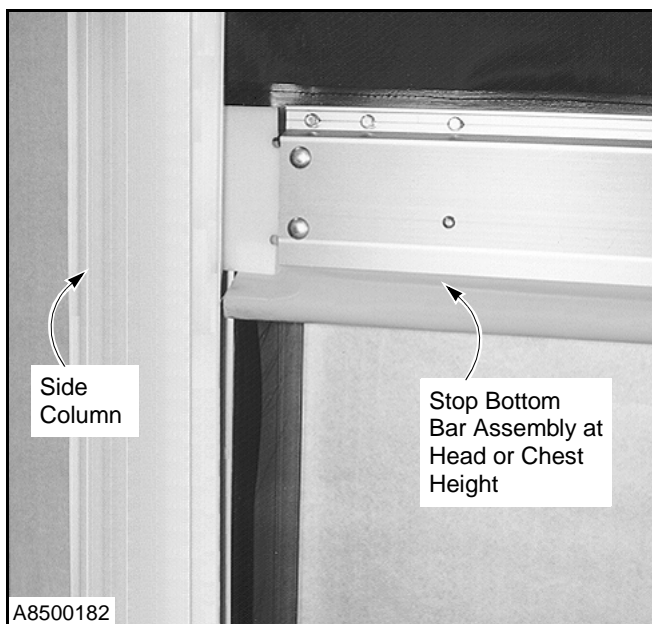

Figure 75
1. Raise or lower the door, as necessary, until the bottom bar is approximately head or chest height. (See Figure 75.)